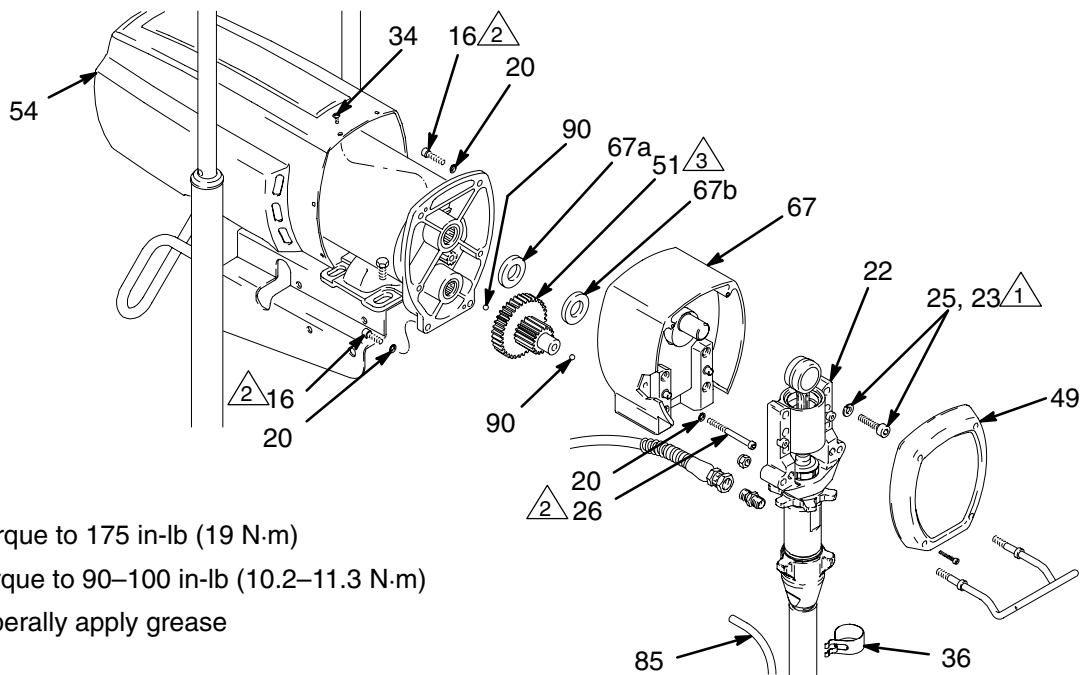

Fig. 9
3. Fig. 9. Remove front cover (49) and motor shield (54). Unclip drain hose (85) from pump.
4. Remove four bearing housing screws (25) and lockwashers (23).
5. Tap lower rear of bearing housing (22) with plastic mallet to loosen from drive housing (67). Pull bearing housing and connecting rod straight off drive housing.
6. Remove two drive housing screws (26) and lockwashers (20).
7. Remove two lower screws (16) and lockwashers (20) and then two upper screws (16) and lockwashers (20) from front of motor (73).
8. Tap drive housing (67) with plastic mallet to loosen from front of motor (73); pull drive housing straight off.
9. Apply approximately 4 oz of bearing grease to gear cluster (51). Grease is supplied with drive housing replacement kit. Be sure thrust balls (90) are in place.
10. Place bronze-colored washer (67b) then silver-colored washer (67a) on shaft protruding from big gear in drive housing (67).